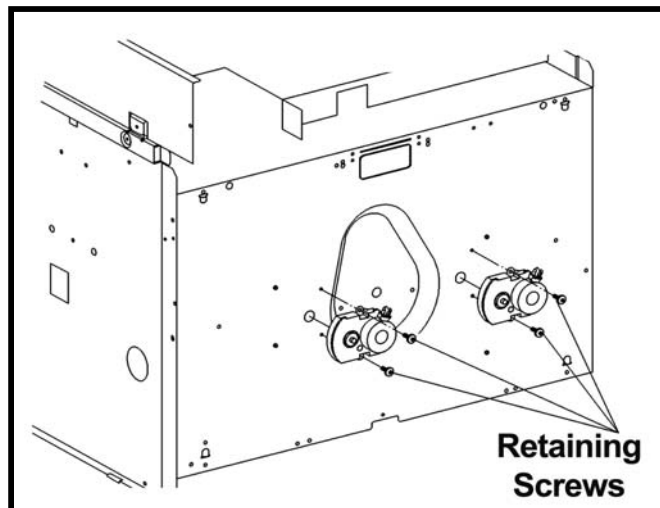

Figure 5-20: Rotisserie Motor and Retaining Screws
4. Refer to Figure 5-20. Remove the Retaining Screws.